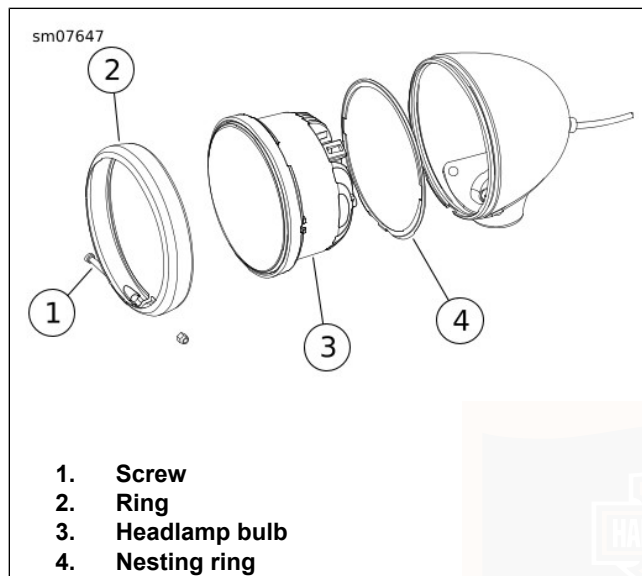

Figure 83. Headlamp Assembly
1. See Figure 83. Remove screw (1). Remove trim ring (2) from lamp housing.
1. See Figure 83. Place nesting ring (4) on back of **new** bulb (3) with the index tab facing away from bulb.